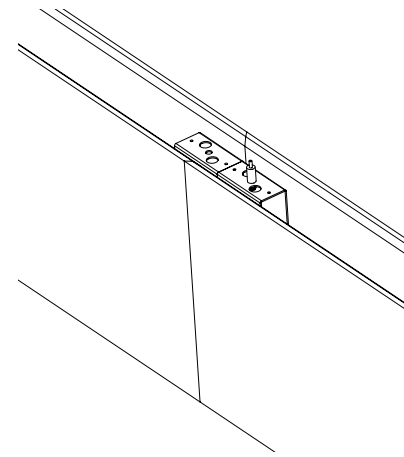

Fig. 9
15. Secure the two fixture support brackets together with the U-Shaped vertical constraint bracket (See figures 9, 10, 11)